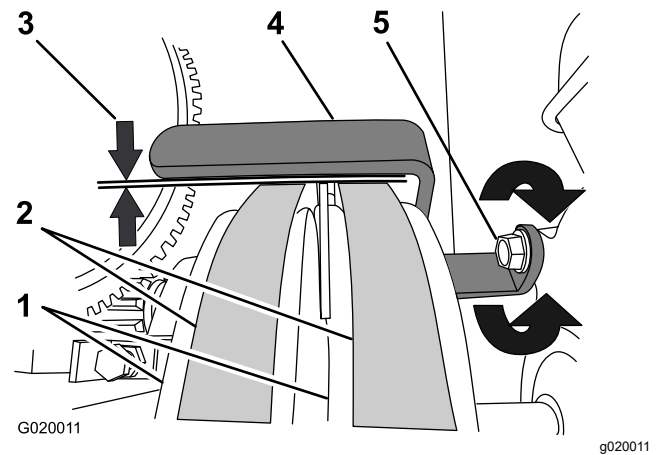

Figure 69
6. Check that the air gap between the belt guide and the belts is 2.5 to 4.0 mm (3/32 to 5/32 inch); refer to Figure 69.
- A. Loosen the bolt that secures the belt guide to the engine (Figure 69).
- B. Rotate the belt guide up or down until there is an air gap of 2.5 to 4.0 mm (3/32 to 5/32 inch) between the guide and each belt (Figure 69).
- C. Tighten the bolt that secures the belt guide to the engine (Figure 69).